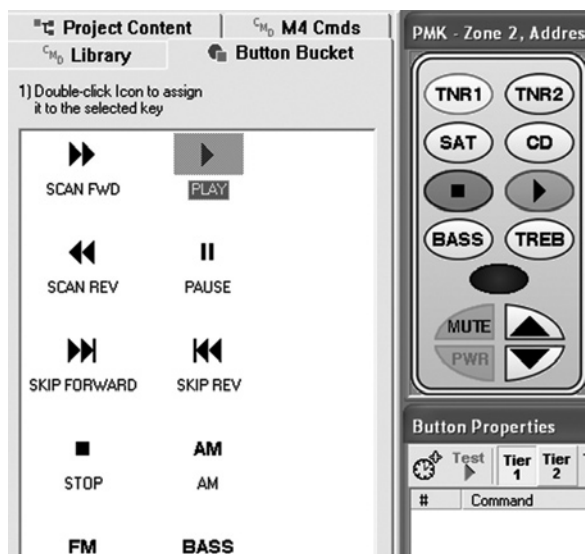

Figure 6 Adding Functions to Previous Source Keys
- If you want to use the two empty keys as Function keys, click each one in turn and place the desired function symbol on the keys from the **Button Bucket** tab. Refer to **Figure 6**.